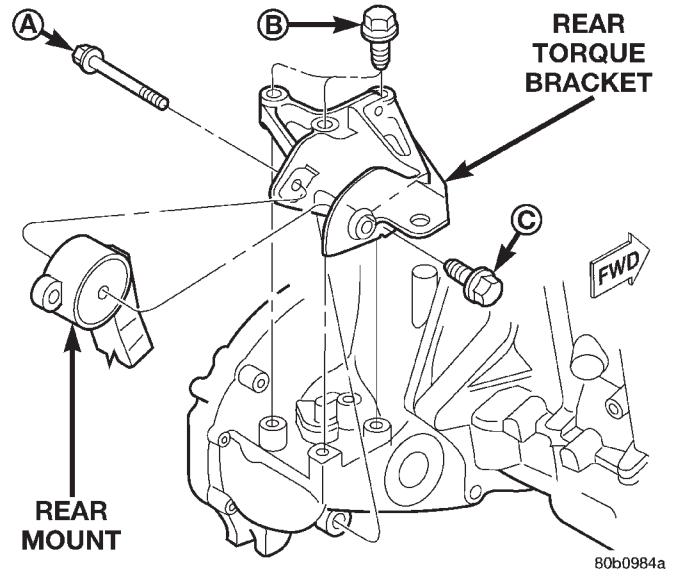

Fig. 14 Engine Mounting—Rear
- (1) Raise vehicle on hoist.
- (2) Remove through bolt (A) from rear engine mount and bracket (Fig. 14).
(4) Install through bolt (A) and tighten to 61 N·m (45 ft. lbs.) (Fig. 14).
(5) Lower vehicle.